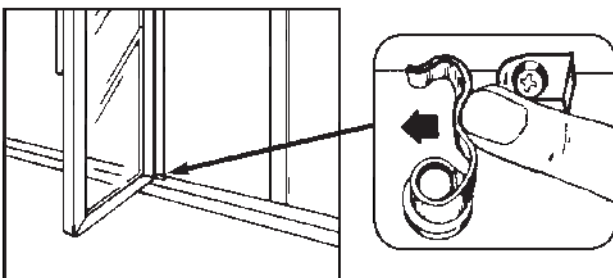

Figure 13
- To keep door in open position, open door fully and push Hold-open retainer, To release, close door. Refer to Figure 13 .